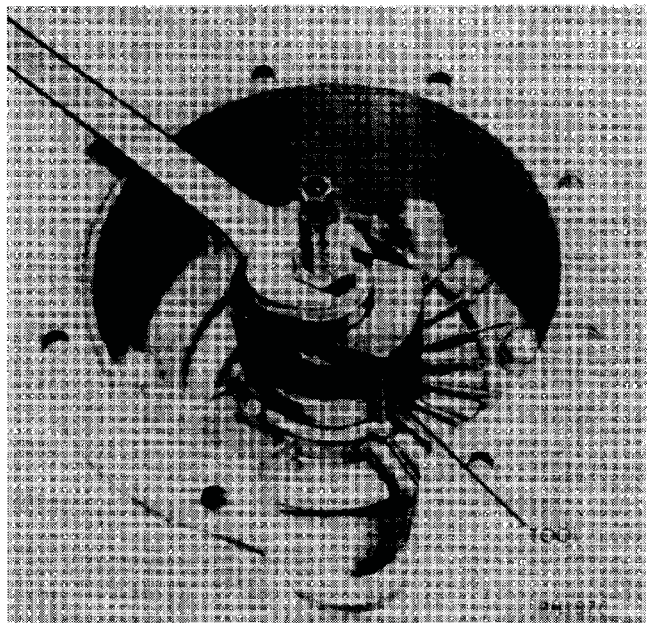

Fig. 20—Removing Rear Output Shaft Front Bearing
- (8) Using tool W356 (or by other suitable means) remove bearing from differential housing (Fig. 20).